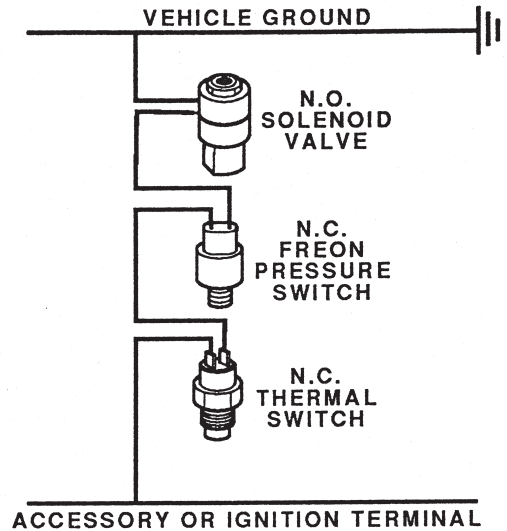

**FIGURE 3**
- A. Connect Valve/Plug to high pressure line (See Fig. 3).
- B. Screw Pressure Switch to Valve/Plug (See Fig. 3).